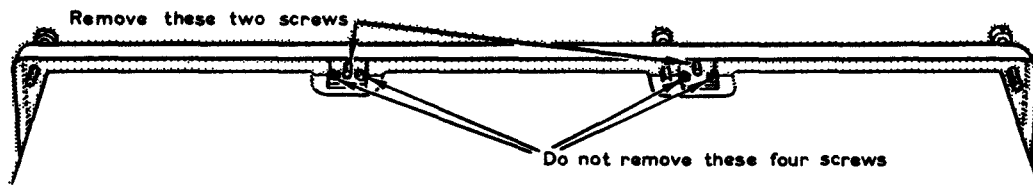

Fig 14
- (vi) **Components and Wiring.** Remove the bottom cover from the chassis, taking care not to remove the fixing screws from the two brackets illustrated in Fig. 14. Inspect all components and wiring, particularly below the chassis, but be very careful not to disturb any wires or components as this may upset the calibration or impair the performance. Report any signs of overheating, burning or other damage. Replace the bottom cover and clean off any dirt or dust from the top of the chassis.